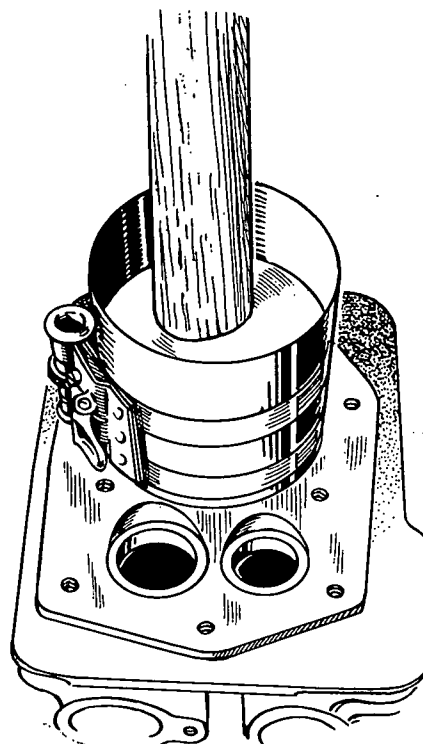

FIGURE 38. INSTALLING PISTON
2. Lubricate the number one piston assembly and inside of the cylinder. Compress the rings with a ring compressor as shown in Figure 38.
4. Tap the piston down into the bore with the handle end of a hammer until the connecting rod is seated on the journal (Figure 38). Install the bearing cap on the rod with the witness marks and stamped reference numbers matching the marks on the rod. Install and tighten the bolts to the specified torques.